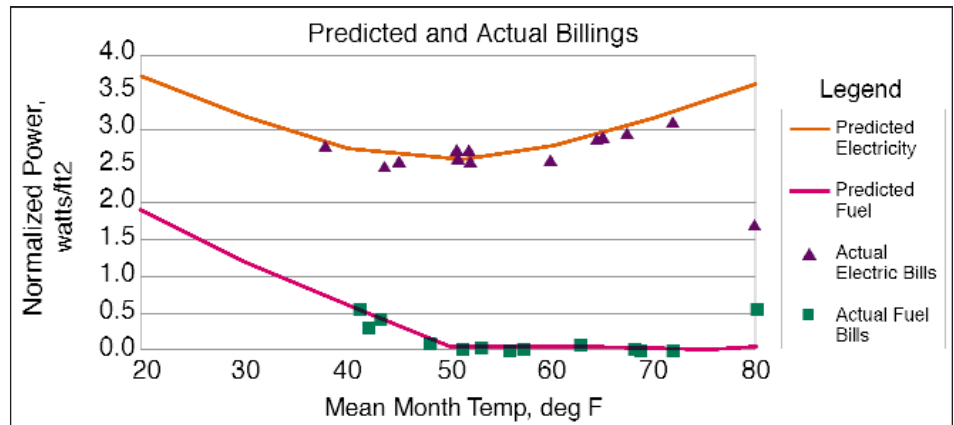

Figure 1. Facility Utility Billing Plot
The next step was to look at the pattern of the utility bills as shown in Figure 1. Most of the heating was accomplished by heat recovery, as shown by the low amount of gas used and the fact that gas is not used until temperatures are rather cold. To match this profile, the model suggests either (1) high internal gains and/or (2) poor heat pump efficiency.
Further tuning adjustments were revealed from the shape in Figure 1. To match the balance temperature (the temperature where gas heating starts) required adjustment of the solar shading factor. This is consistent with the observation that much of the window area is shaded by nearby buildings or their location inside the atrium.
Cooling is accomplished with a cooling tower connected to the heat pump loop. Since the efficiency of the cooling tower is unknown, the EZ Sim model was adjusted empirically until the cooling slope agrees with the bills. The final model fit is shown in Figure 1.